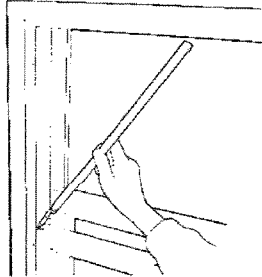

Fig. 8
- 3** Note that the shorter pair of balances is normally for the top sash, given sashes of equal height. With the sashes lowered, insert the appropriate pair of balances into the grooves (Fig 8). In the case of unequal size sashes it is possible to slightly bow the balance for insertion into the groove of the larger sash. In some cases, larger sashes may have to be removed.